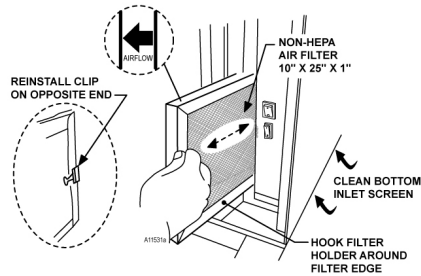

Figure 11a. Air Filter, Clip & Bottom Inlet Screen
The inlet screen is a long narrow screen located on the bottom right side. It can only be accessed from underneath the cabinet. See Figure 11a on page 28. Remove dust and debris from the inlet screen to allow air to flow to the condenser coils.
- Is the condenser fan running? Fold a sheet of 8 1/2" x 11" paper in half. Place the paper in front of the condenser coil inlet screen located on the bottom right side underneath the cabinet and see if it draws the paper to it. See Figure 11a on page 28.